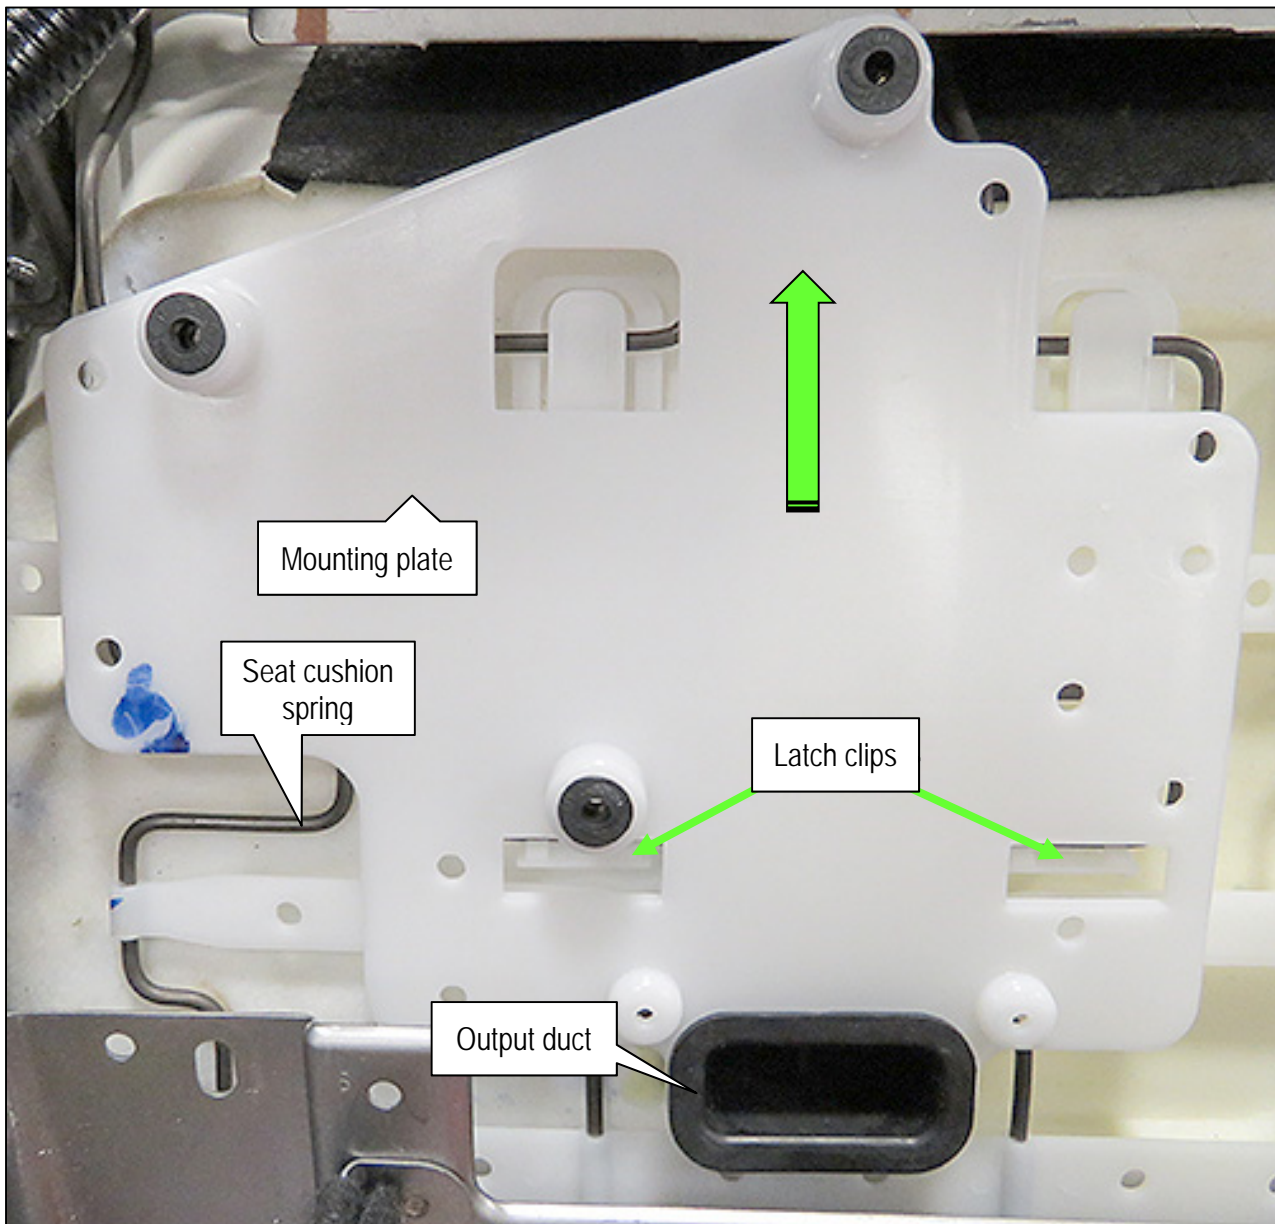

Figure 8
15. Remove the output duct shown in Figure 8.
- b. Slide the mounting plate in the direction indicated in Figure 8.